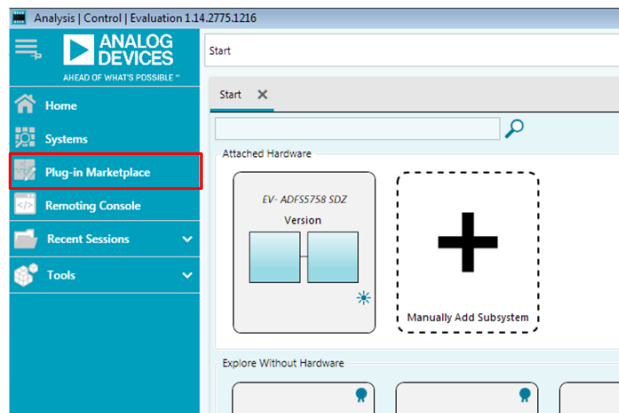
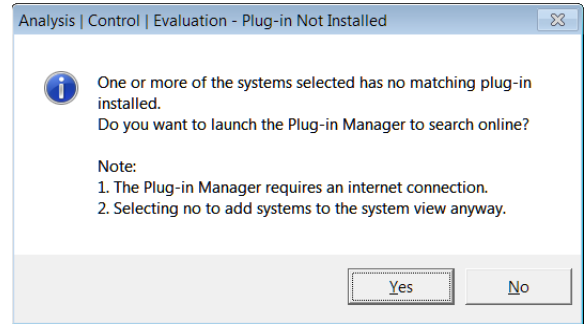
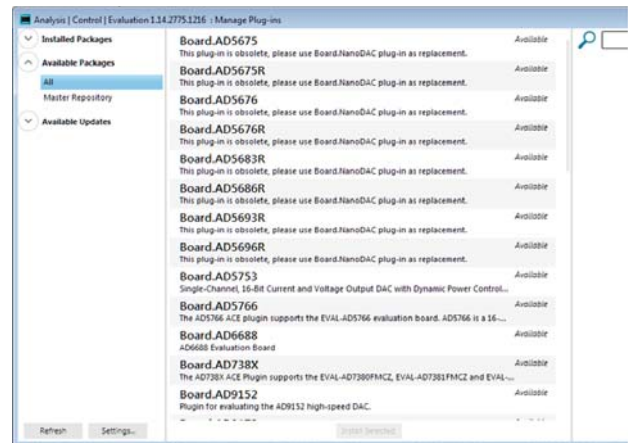
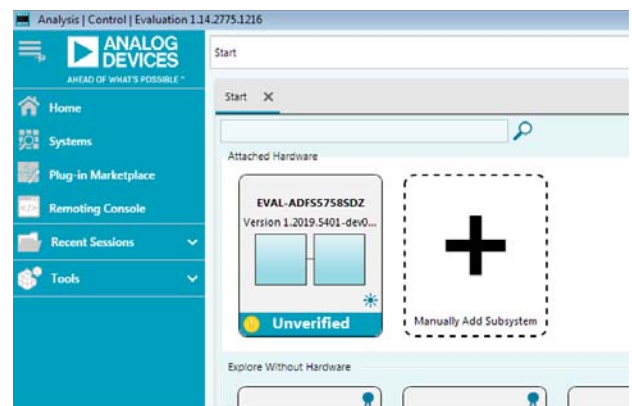

Figure 3. EVAL-ADFS5758SDZ Plugin Not Installed
Figure 4. Installing Plugin Popup Window
Figure 5. Manage Plug-ins Window
Figure 6. Attached Hardware Pane with EVAL-ADFS5758SDZ Connection
5. When setting up the evaluation board for the first time, the EVAL-ADFS5758SDZ plugin may need to be installed. If the plugin appears as shown in Figure 6, go to Step 7. If the plugin appears as shown in Figure 3, click the button that is marked in red in Figure 3. After clicking this button, the popup window shown in Figure 4 appears. Click Yes.
6. A new window appears, as shown in Figure 5. Navigate to the Board.ADFS5758 plugin and click Install Selected. The EVAL-ADFS5758SDZ plugin installs and displays, as shown in Figure 6.